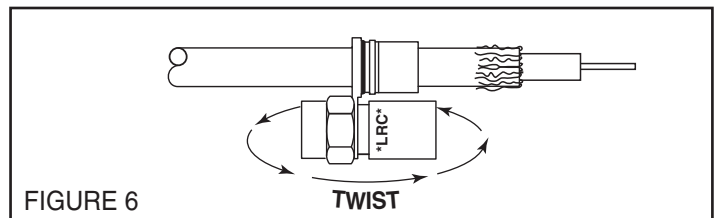

FIGURE 6
**WARRANTY:** Thomas & Betts sells this product with the understanding that the user will perform all necessary tests to determine the suitability of this product for the user's intended application. Thomas & Betts warrants that this product will be free from defects in materials and workmanship for a period of ninety (90) days following the date of purchase. Upon prompt notification of any warranted defect, Thomas & Betts will, at its option, repair or replace the defective product or refund the purchase price. Proof of purchase is required. Misuse or unauthorized modification of the product voids all warranties.
- Twist connector to remove from plastic sleeve as shown in Figure 6 (plastic ring may stay attached between connector collar and nut).